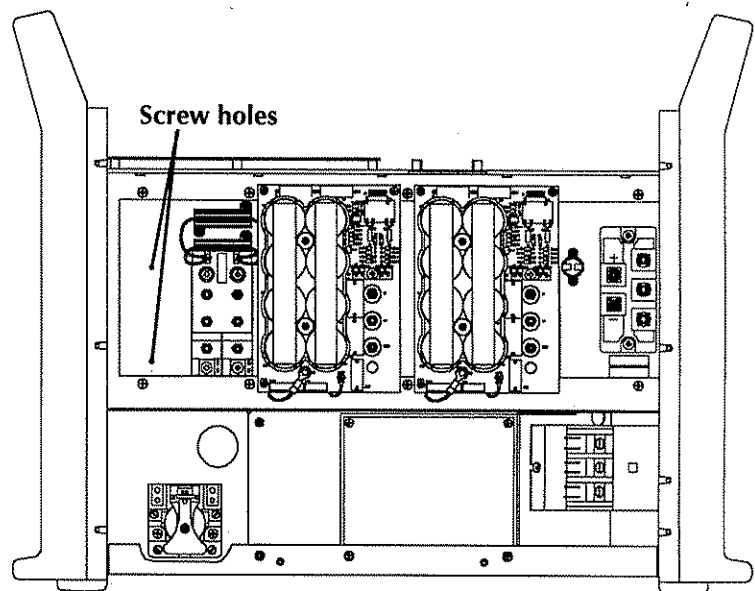

Figure 4 - Screw Hole Location for Pilot Arc IGBT
7. Face the opposite side of the unit (fan on the far side) and locate the 2 empty screw holes on the left side of the heatsink assembly - Fig. 4.